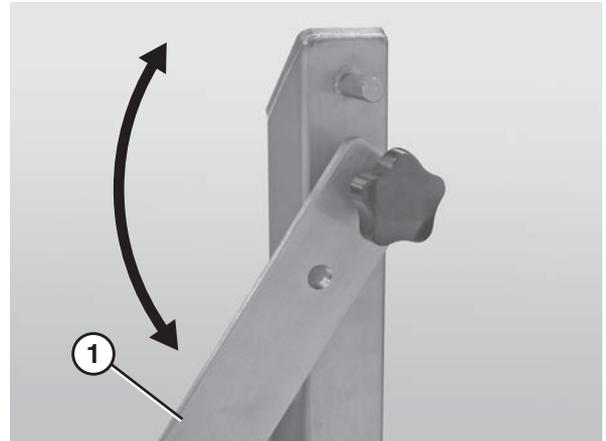

Figure 18
- Lower the quick release arm (Figure 18, item 1) on one of the stands. *Note: if the conveyor is not equipped with Quick Release (QR Type) stands, it will be necessary to remove the entire stand.* For detailed instructions, refer to the “Sanitary Support Stands Installation, Maintenance and Parts Manual.”